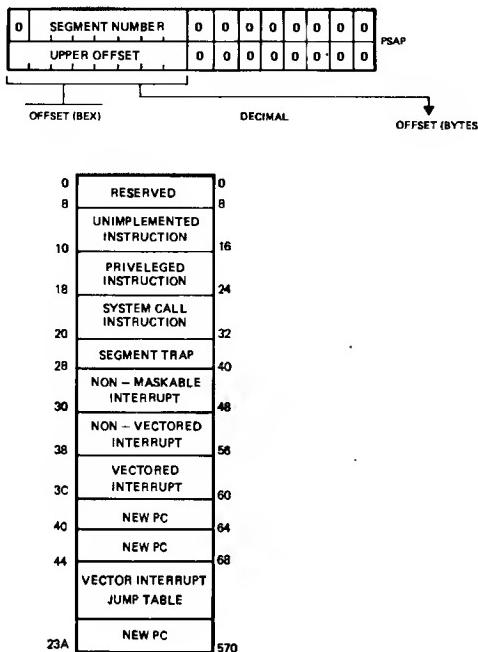

Fig. 2-6 Program Status Area
**Loading New Program Status** - After saving the current program status, the new program status (PC and FCW) is loaded from the Program Status area in the system program memory. The particular status words fetched from the Program Status Area are a function of the type of trap or interrupt and (for vectored interrupt) of the interrupt vector. Figure 2-6 shows the format of the Program Status Area.
The Program Status Area is addressed by the Program Status Area Pointer (PSAP). As shown in Figure 2-6 the pointer contains a segment number and the high-order byte of a 16 bit offset address. The low-order byte is assumed to contain zeroes, thus the Program Status Area must start on a 256 byte address boundary. The PSAP is accessed using the Load Control Register Instruction (LDCTL).